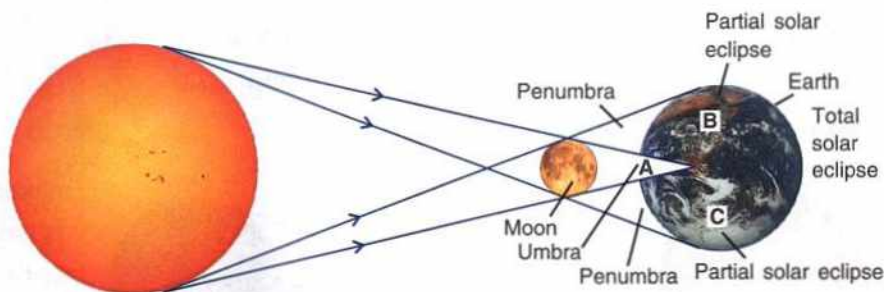

Fig. 5.20 Formation of solar eclipse
2. Solar eclipse : On a certain new moon's day, when the moon comes in between the sun and the earth, the moon casts its shadow on the earth (Fig. 5.20).